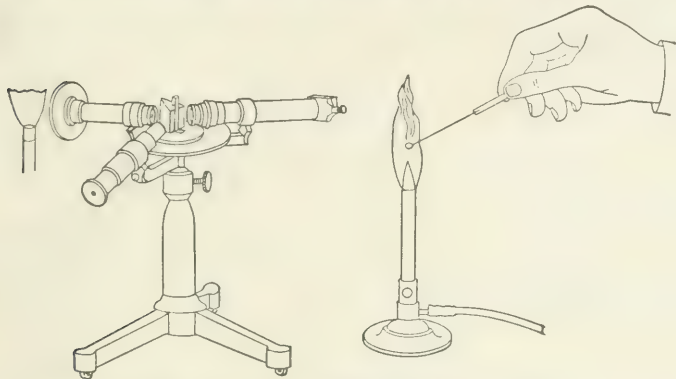

Fig. 72. Spectroscope used in spectrum analysis.
**Optional work.** If a spectroscope (Fig. 72) is available, study the spectra of these metals and compare your results with those shown on the Spectrum Chart (facing page 304, B. & C.).